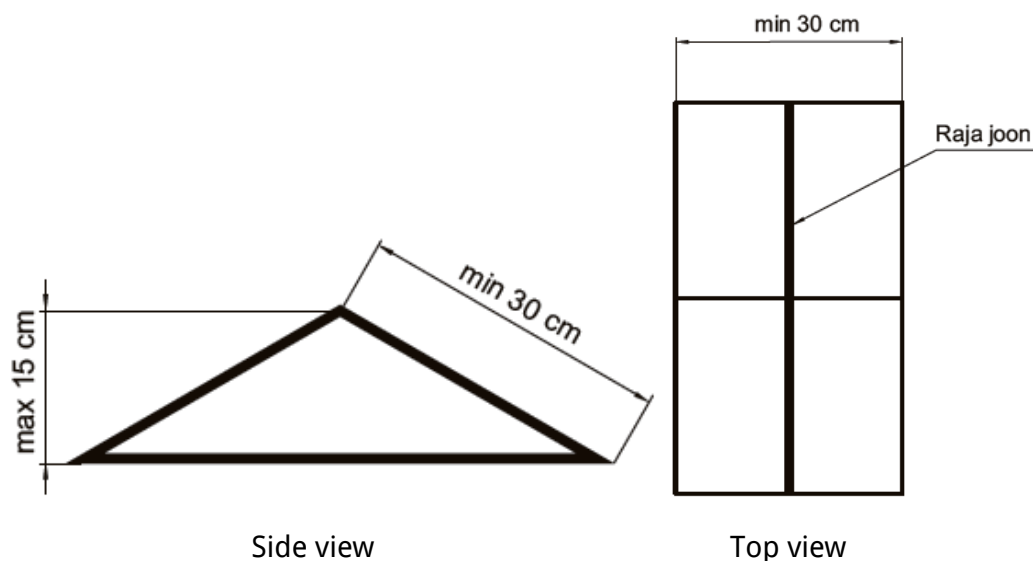

Figure 4: Mountain
- From the side view, the mountain is an isosceles triangle and from the top view, a rectangular shaped static obstacle on the track (see Figure 4). Its height is a maximum of 15 cm and the arm of the triangle is at least 30 cm. The width of the mountain is at least 30 cm. The task of the robot is to drive/jump over the mountain and continue following the line. The robot is not allowed to drive around the mountain. Standard track line will continue on the mountain. After the mountain, there is at least 20 cm of straight line.